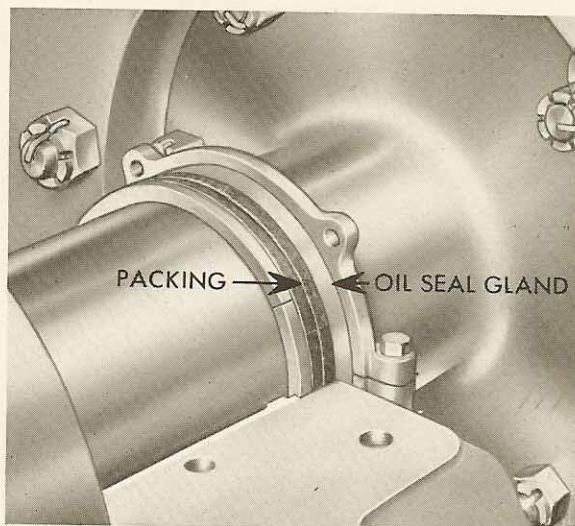

FIGURE 15-4
6. OIL SEALS: After all adjustments are completed, examine the packing in the oil seals. If this has become worn or hard, it should be renewed. The packing is laid in as shown in Figure 15-4.